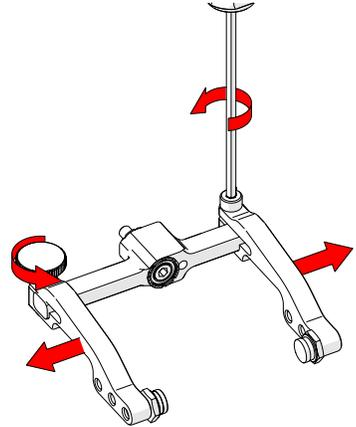

Fig. 140 - Remove probe holder arms
3. Loosen the probe holder arm adjustment knob and the arm clamp screw. Slide the probe holder arms off the yoke (Fig. 140).